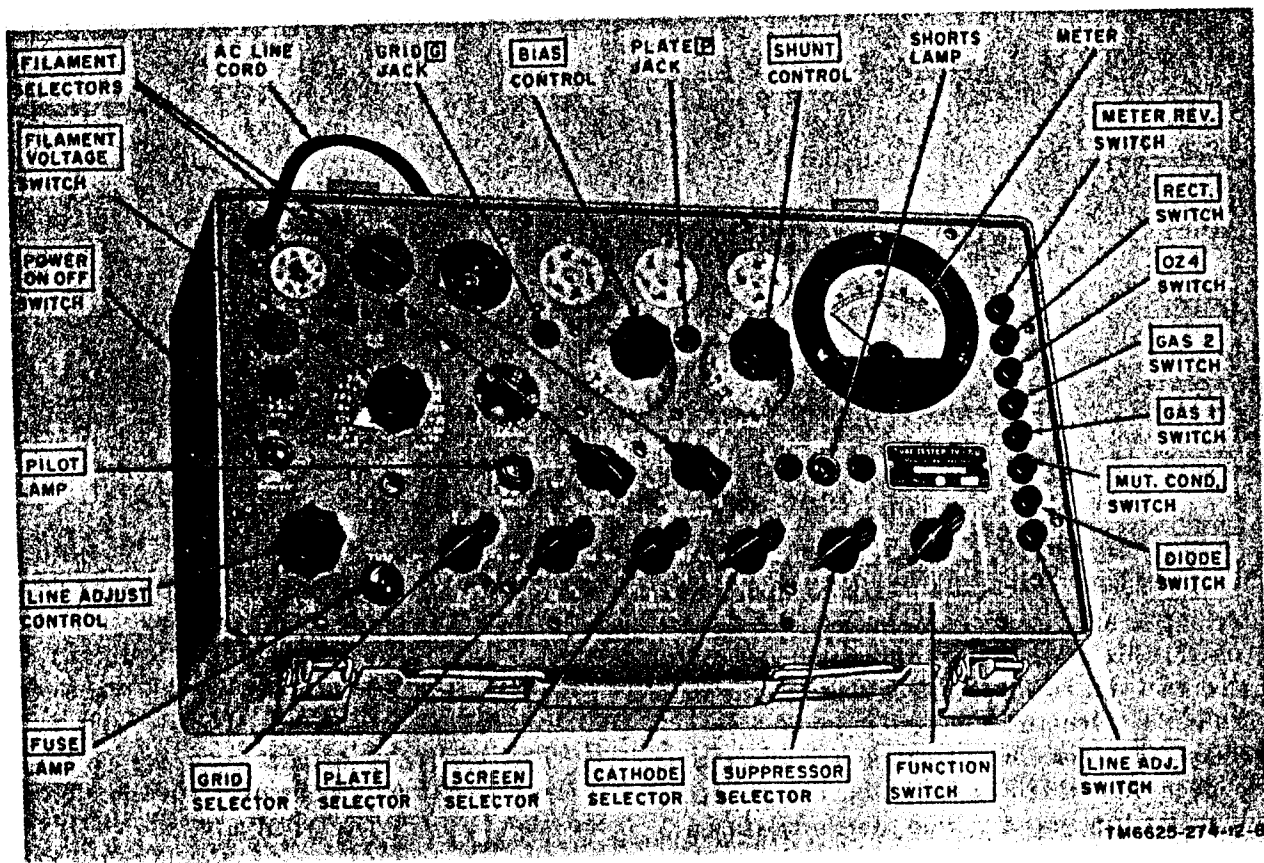

Figure 6. Test Set, Electron Tube TV-7/U, front panel.
Improper setting of the FILAMENT VOLTAGE switch (fig. 6) or incorrect operation of the pushbutton switches may damage the tube under test. Be sure that all the controls and switches are set properly before testing tubes.
(1) Set the left FILAMENT selector at A, the right FILAMENT selector at P, and the GRID, PLATE, SCREEN, CATHODE, and SUPPRESSOR selectors at 0, 0, 0, 2, and 2, respectively.
(2) Rotate the FUNCTION SWITCH through the five SHORTS positions. The neon SHORTS lamp (fig. 6) should glow in positions 2 and 3 of the FUNCTION SWITCH to indicate that the short test circuit is functioning properly.